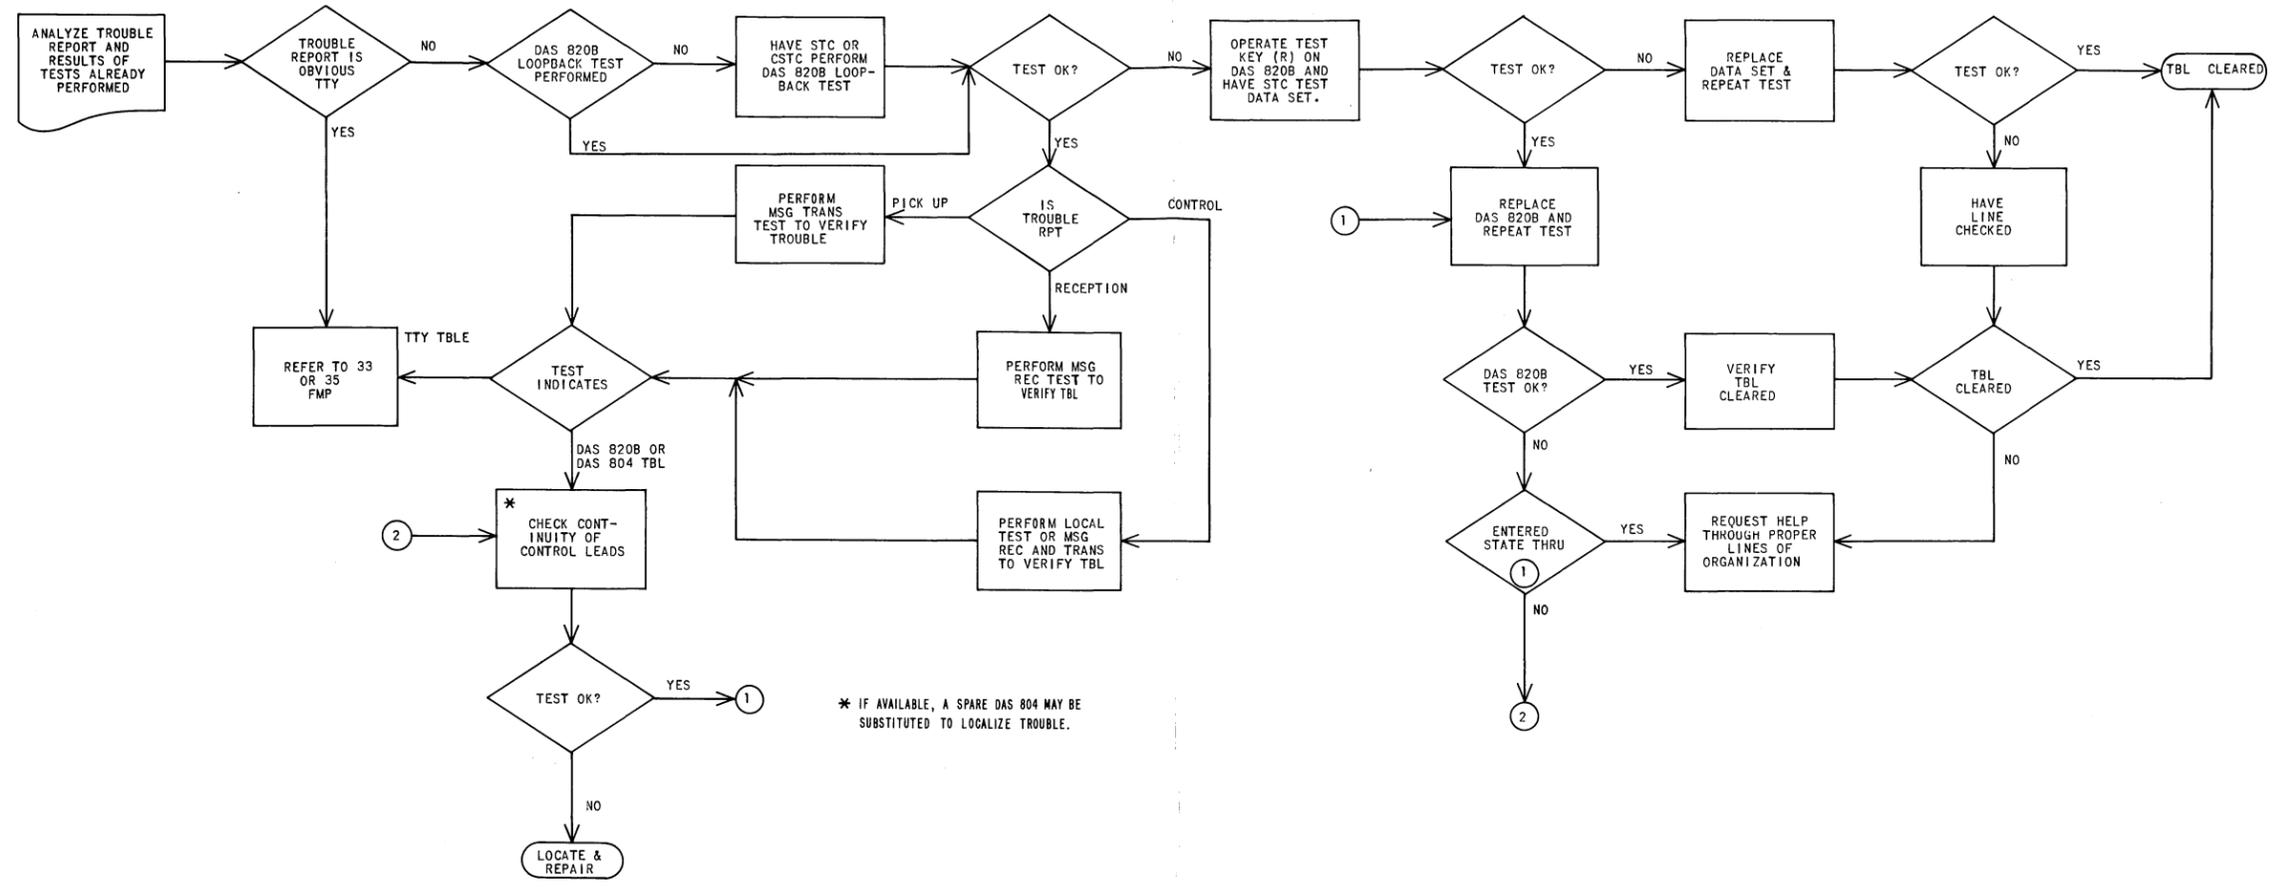

Fig. 6—Flow Chart, Maintenance Test Procedure
4.01 Maintenance of the half-duplex, 100 word per minute data station should be in accordance with the flow chart shown in Fig. 6. This flow chart is recommended for an organized trouble investigation with a minimum amount of time spent in locating the cause of the customer's trouble report.